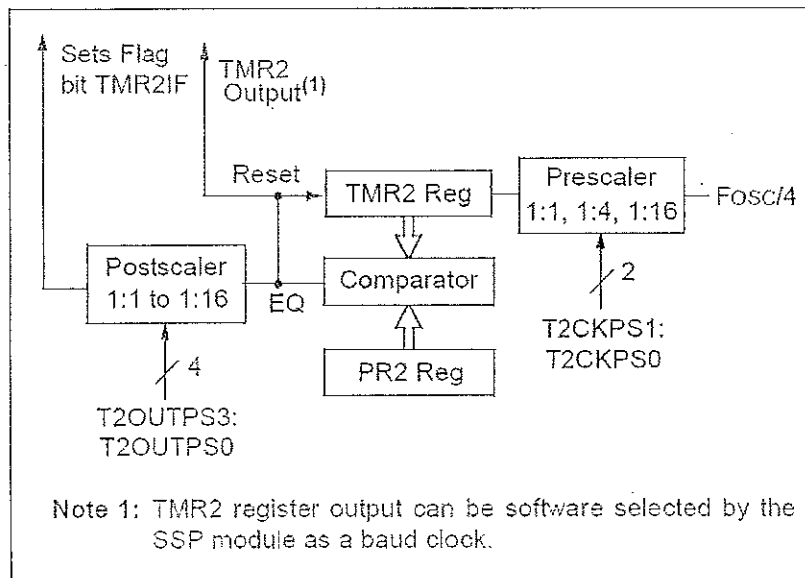

Figure 4(a)
- (a) A Timer 2 block diagram is shown in Figure 4(a). Timer 2 is used to generate a delay of 50µs.